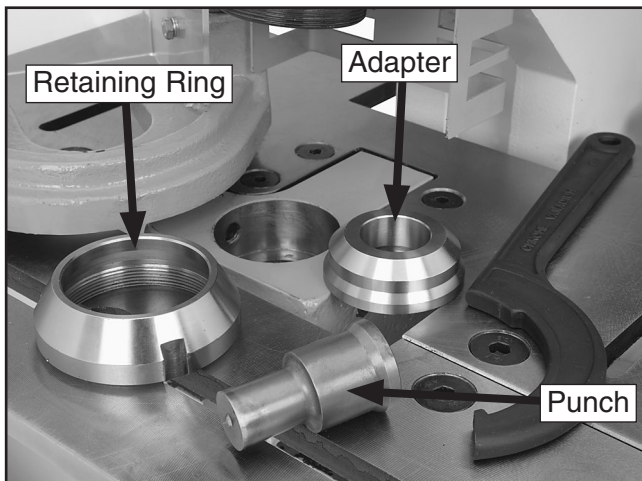

Figure 21. Punch assembly removed and separated.
- Use the spanner wrench to loosen and remove the punch retaining ring, then separate the punch adapter and die from the ring (see **Figure 21**).
- Place the adapter into the retaining ring, then the punch into the adapter (see **Figure 21**).